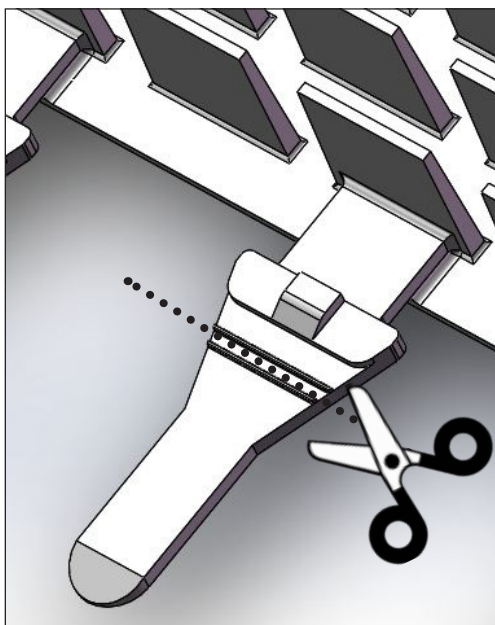

Figure 18. Cut Tabs
- Use scissors to cut the tabs at the guides, as shown in Figure 18.